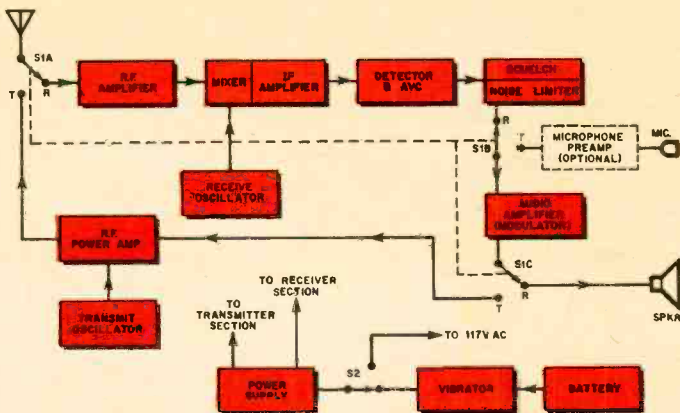

Fig. 1. Block diagram showing switching of a typical transceiver.
Figure 1 shows the interrelations of the various circuits in a transceiver. With the exception of the power supply, the failure of a particular section does not prevent the other circuits from functioning. This is what makes transceiver servicing relatively easy. Now let's take a look at some common trouble symptoms and see how they can be handled.
**No Reception.** Since this fault could be due to several defects, let's first check the RF output. The logic of this will become clear shortly. Connect a visual RF indicator (dummy load lamp) or a CB power meter to the antenna jack, turn on the transmitter and speak into the microphone. If the load lamp lights—indicating RF output—but does not change in intensity with modulation (a power meter will wiggle with modulation), this indicates a fault in the audio section. Since the audio section is common to the transmitter and receiver (see Fig. 1), the lack of reception is due to the same defect. Notice that before the transmitter was tested, the lack of reception *could* have been due to a fault in *any* part of the receiver.